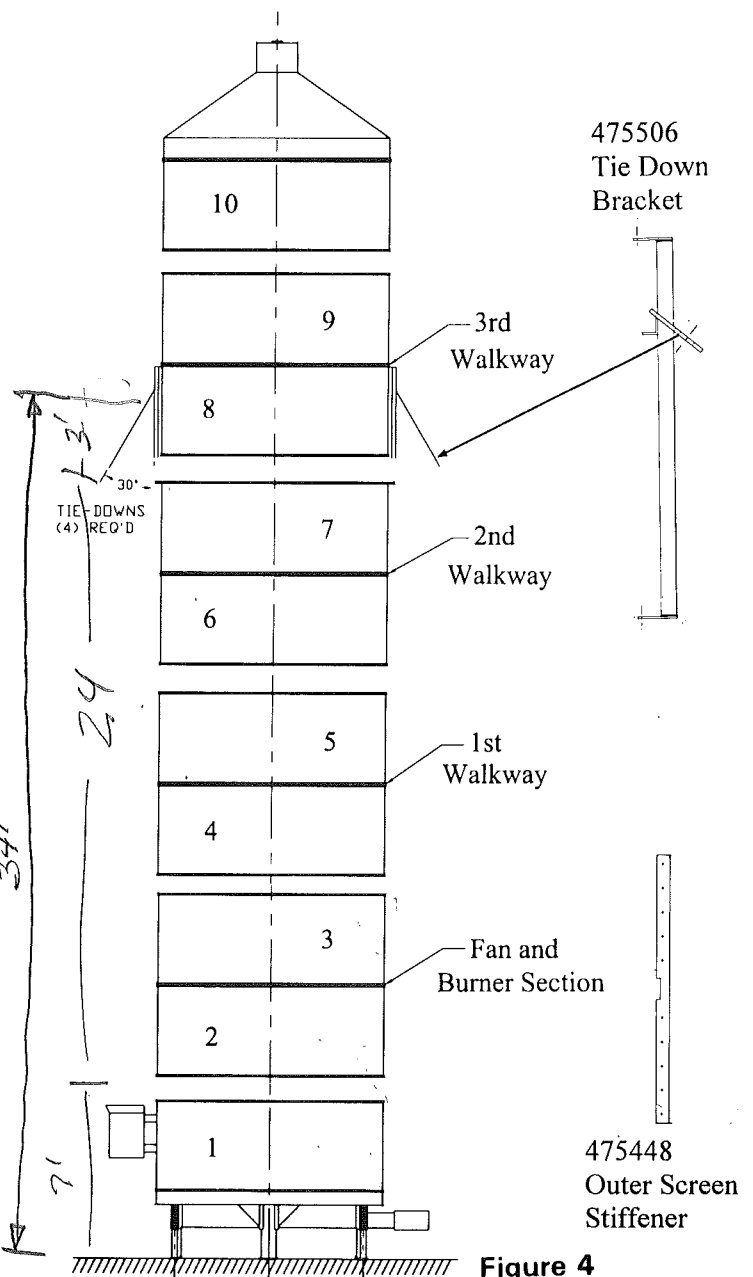

Figure 4
The 101075 Tower Dryer is shipped in (6) sections: Base, (4) Double Screen Sections, and (1) Screen with Top Section. See Figure 4.